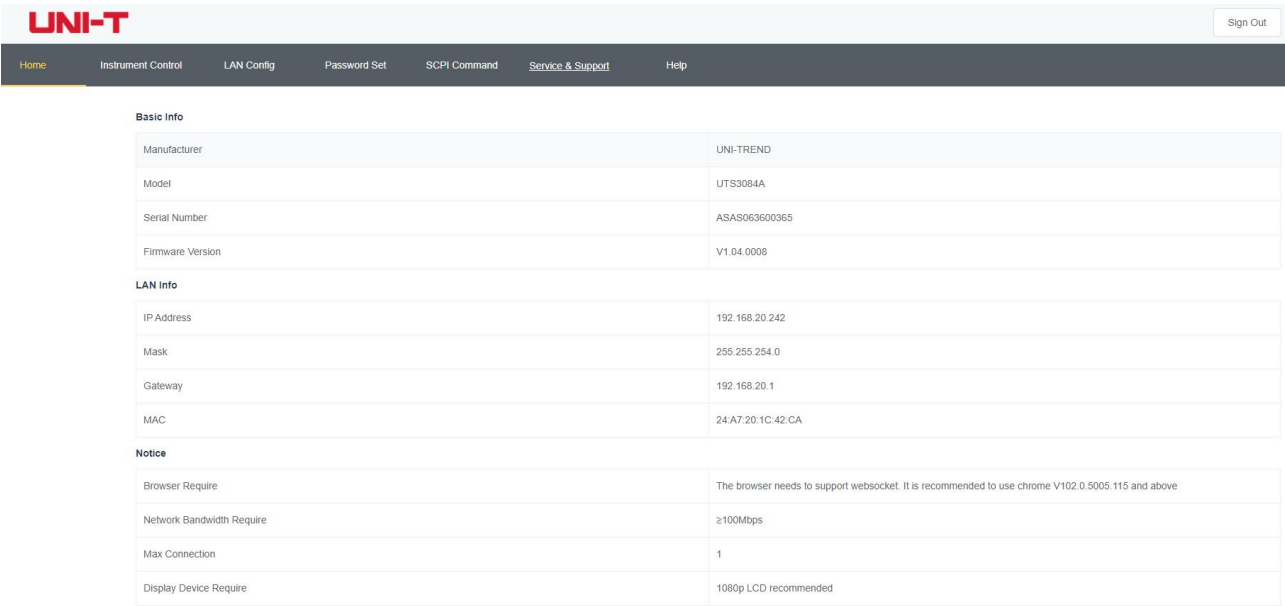

Figure 3-19 Web Basic Information
- PC browser using 192.168.20.117 to access the signal analyzer can check the basic information and operate the instrument control, internet settings, password settings, and SCPI control, as shown in Figure 3-19.